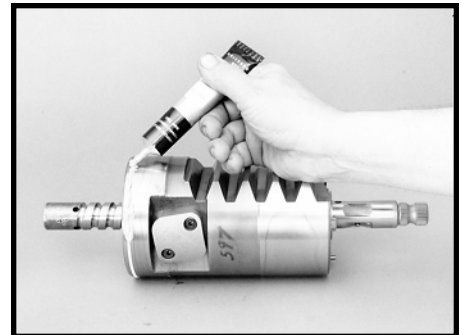
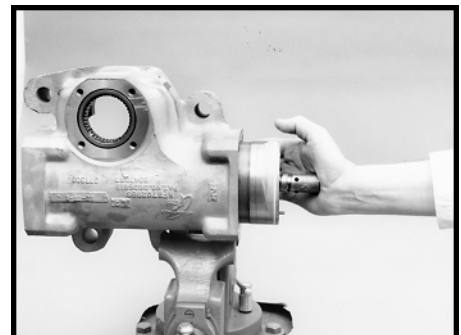

Figure 117
Figure 118
12. Position the housing (19) securely in a vise as it was for the disassembly procedures. SEE FIGURE 40 page 20. Apply a generous amount of clean grease to the Teflon rack piston seal (36) and to the housing cylinder bore. SEE FIGURE 117. Install the rack piston (29) worm shaft/input shaft (16) assembly into the long end of the housing so that the Teflon rack piston seal goes in last. SEE FIGURE 118.